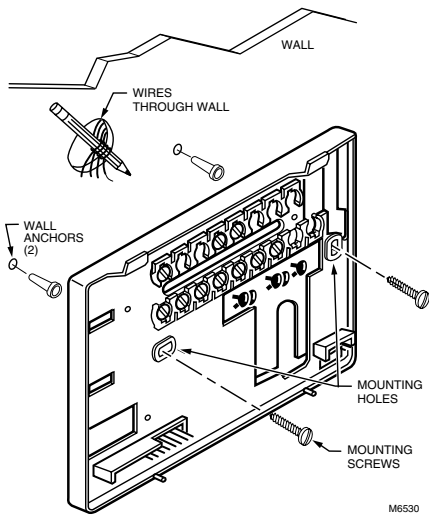

Fig. 2. Mounting the wallplate.
- 2 Use a pencil to mark the mounting holes. See Fig. 2.